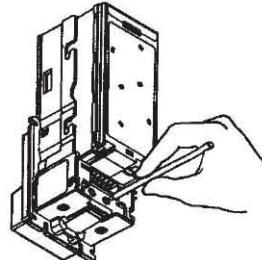

Figure 6.
3. Locate the service button on the back of the unit (refer to Figure 6). Depress the button once to enter coupon set-up mode. Depressing again will exit the mode.